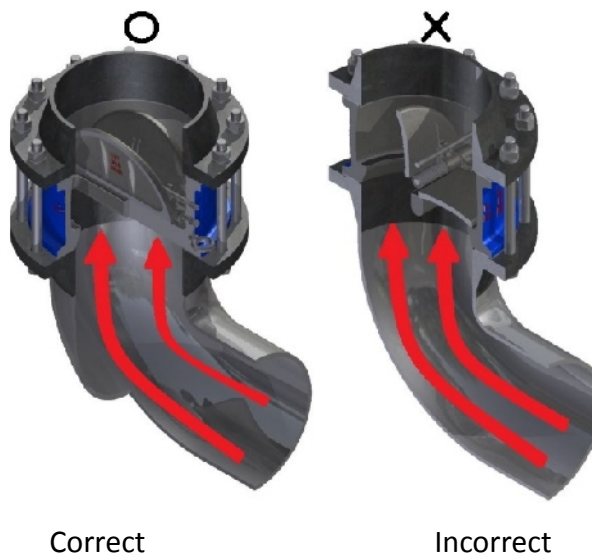

Figure 5
Step 5. In horizontal piping, set the rib of Top Check vertically and be in according to figure 5.